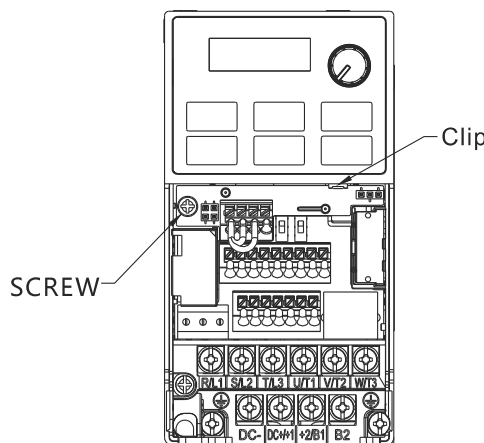

Figure 8-4
4. As shown in Figure 8-4, assembly is completed.